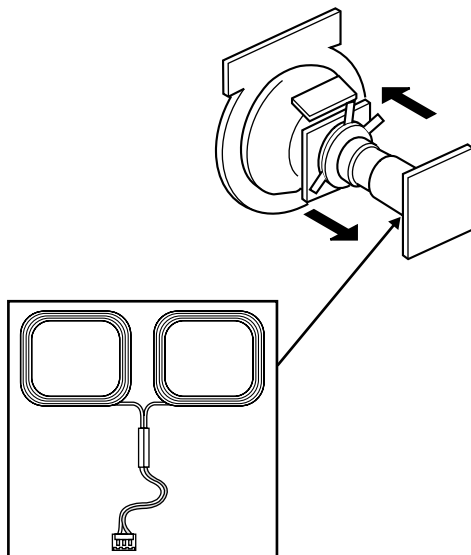

Fig. 3-1
3. Move the deflection yoke to the rear and adjust with the purity control so that the green is at the center and the blue and the red take up equally sized areas on each side. (See Figures 3-1 through 3-4.)
4. Move the deflection yoke forward and adjust so that the entire screen is green. (See Figure 3-1.)